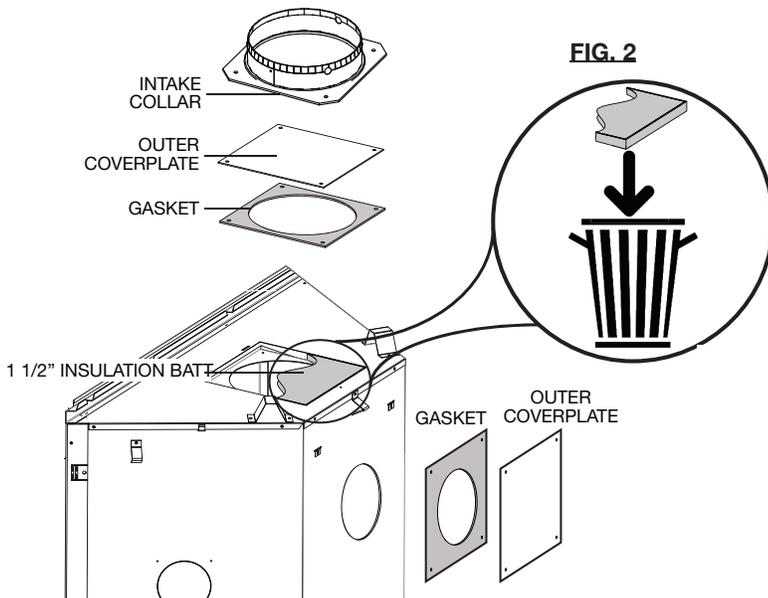

FIG. 2
- D. Remove the 1 1/2" (38.1mm) thick batt of insulation and **discard** (**Fig. 2**).
- E. Place the 7" (177.8mm) intake collar and gasket onto the top of the appliance and secure using 4 screws (**Fig. 2**).